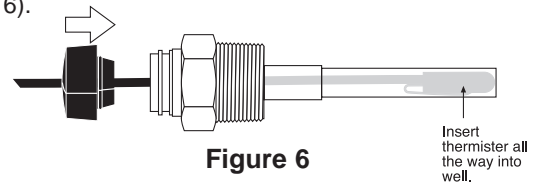

Figure 6
STEP 9 Insert sensor all the way into well. Install rubber well cap onto sensor wire and slide to cover end of well (Figure 6).